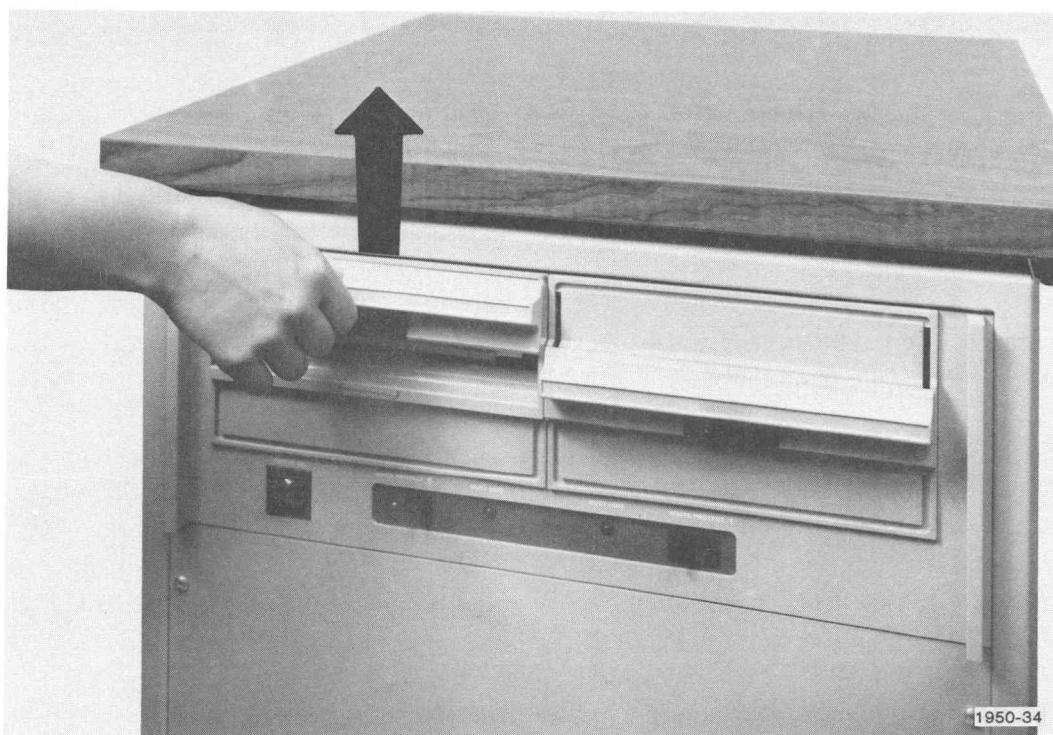

Fig. 8-9. Opening the door on the Flexible Disc Unit drive.
2. If the door on the Flexible Disc Unit drive is closed, open it by pressing up on the black latch and raising the door (Fig. 8-9).